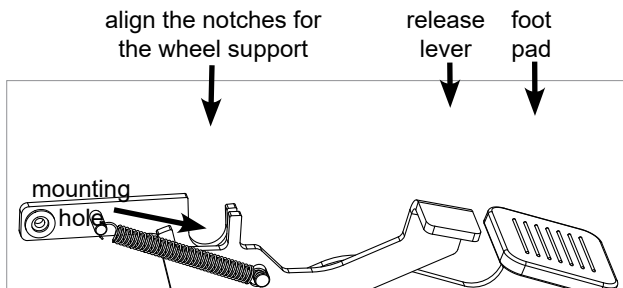
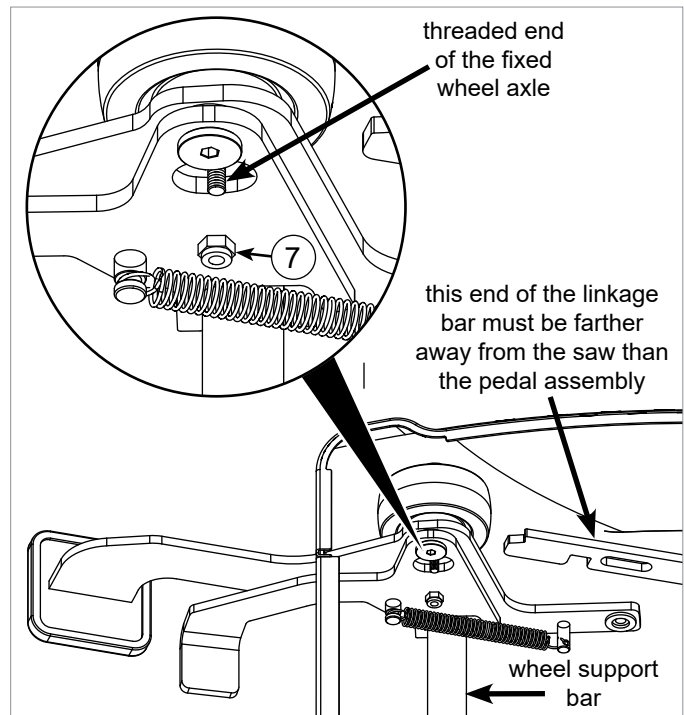

Fig. 13a
Fig. 13b
13. You must now position the pedal assembly so that it fits against the wheel support. The pedal assembly includes notches shaped to fit over the wheel support bar, and a mounting hole shaped to fit over the threaded end of the fixed wheel axle (see Fig. 13b). Squeeze the foot pad and the release lever together until the notches for the wheel support align as shown in Fig. 13a. With the slots aligned, position the pedal assembly so that the wheel support bar fits in the notches and so that the threaded end of the fixed wheel axle extends through the mounting hole in the pedal assembly. When positioning the pedal assembly make sure the linkage bar extending from the caster support is rotated outwards so that it is farther away from the saw than the pedal assembly as shown in Fig. 13b. Use an M6 lock nut from the hardware pack to secure the pedal assembly to the fixed wheel axle as shown in Fig. 13b. Fully tighten the nut using a 17 mm wrench and a 10 mm socket.